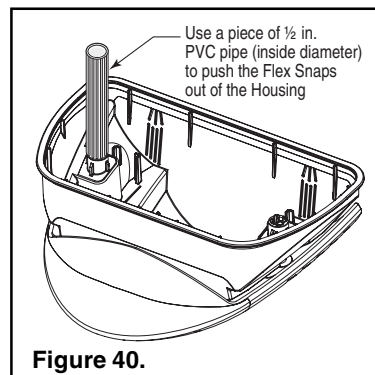

Figure 40.
8. If you need to replace the bumper, turn the housing/bumper assembly upside down and remove the two flex snaps holding the bumper to the housing, (see Figures 40 & 41). Use a piece of  $\frac{1}{2}$  in. (inside diameter) PVC pipe to slide over the flex snap ends to squeeze the flex snaps together so they can be slid out of the housing. Use a pair of pliers to pop the flex snaps off of the bumper.